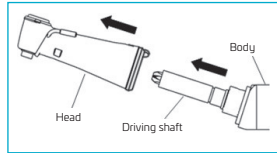

Fig. 9
- Unplug the head from the body. (Figure 9)
- Unplug the driving shaft from the body. (Figure 9)